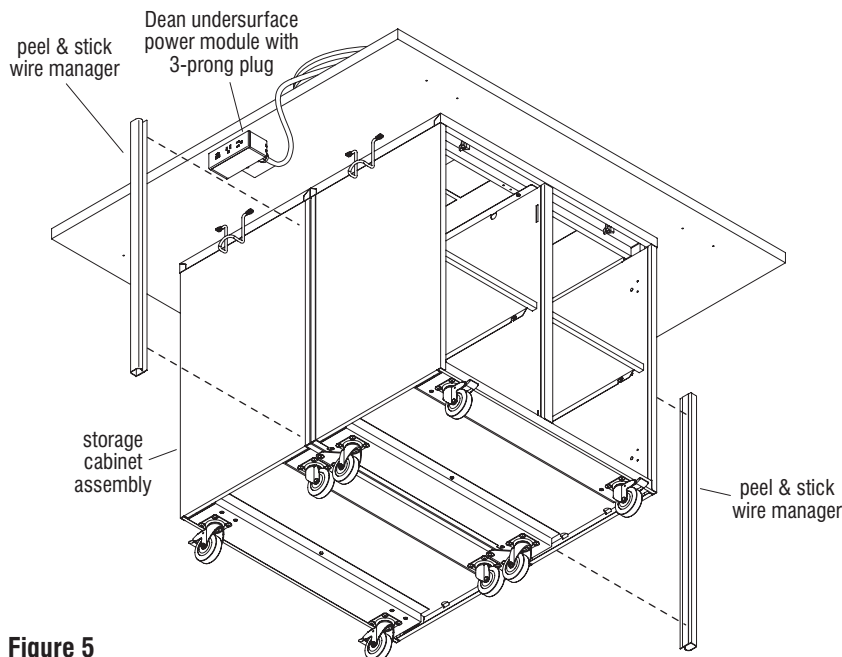

Figure 5
1. If the Ruckus worktable being assembled has power, two wire managers must be installed. Remove the backing from the peel & stick pad on the wire manager to expose the adhesive surface. Position the wire manager vertical and flush with the bottom of the storage cabinets, and slightly off center so it will adhere to only one cabinet. Apply firm pressure all along the wire manager to set the adhesive (Figure 5 & Detail I).